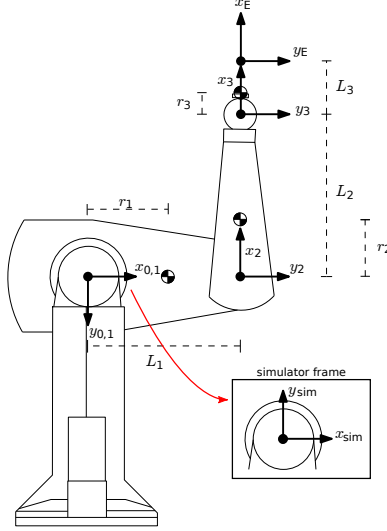

Figure 1: RRR Puma in zero configuration.
In this assignment you will derive the Denavit–Hartenberg (DH), forward kinematic mode, and the Jacobian of the RRR planar manipulator shown in Fig. 1, which corresponds to the 3-DOF mode of the Puma 560. The three joints in this mode correspond to the joints 2, 3, and 5 of the robot. You will implement the methods of the class `FORWARDKINEMATICS_PUMA2D` in the provided file `forwardkinematics.cpp`.
Use the frame assignment depicted in Fig. 1 to derive the DH parameters. The figure shows the zero configuration of the robot.
Hints: `gv.x` contains three values: the current x -position, the y -position and the orientation α of the end-effector. Note that the y -axis in the simulator is orientated in the opposite direction as the one in figure1. Start the recording *after* you moved the robot close to $x(t_{start})$ by executing `proj1Control`.